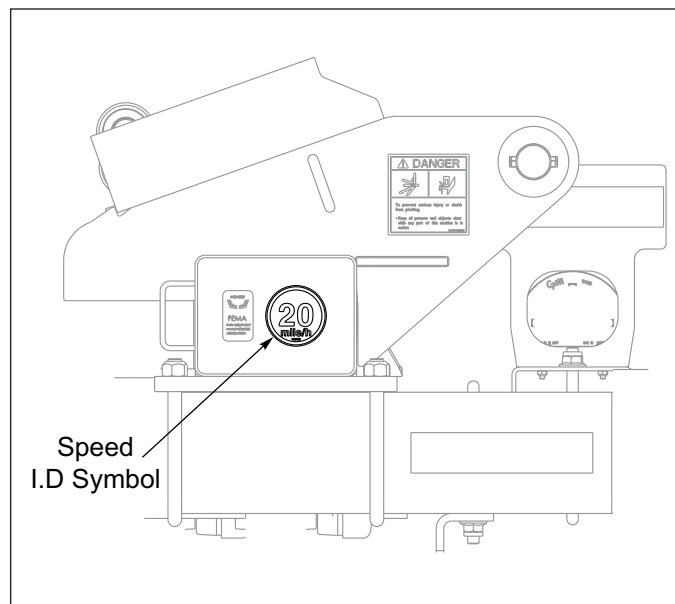

Figure 3-11: Speed Identification Symbol
2. The Pulvi-Mulcher should be transported only by tractor required for field operation. The implement weight should not exceed more than 1.5 times the tractor weight. Maximum transport speed for the Pulvi-Mulcher is 20 mph for the implement and is designated on the speed identification symbol located on the front of the implement. **See Figure 3-11.**